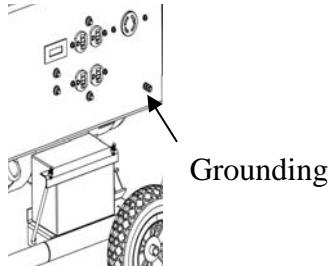

Figure 5- Grounding nut location
Ground the generator by tightening the grounding nut against a grounding wire (see figure 5). A generally acceptable grounding wire is a No. 12 AWG (American Wire Gauge) stranded copper wire. This grounding wire should be connected at the other end to a copper or brass grounding rod that is driven into the earth. Wire and grounding rod are not included in generator contents.
2. Check that the generator is properly grounded (see Figure 5, “Ground the Generator”).
Ground the generator by tightening the grounding nut on the front control panel against a grounding wire. (Figure 5) A generally acceptable grounding wire is a No. 12 AWG (American Wire Gauge) stranded copper wire. This grounding wire should be connected at the other end to a copper, brass, or steel-grounding rod that is driven into the earth. Wire and grounding rod are not included in generator contents.